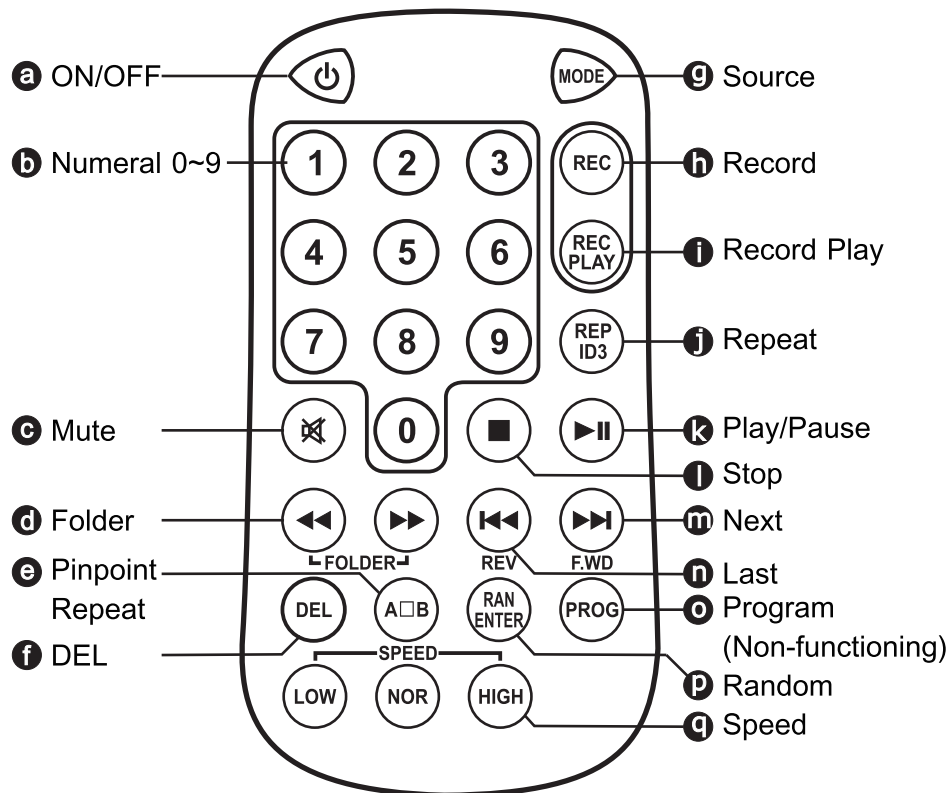

Fig. 16
3. Remote Controller Controls. Fig. 16: